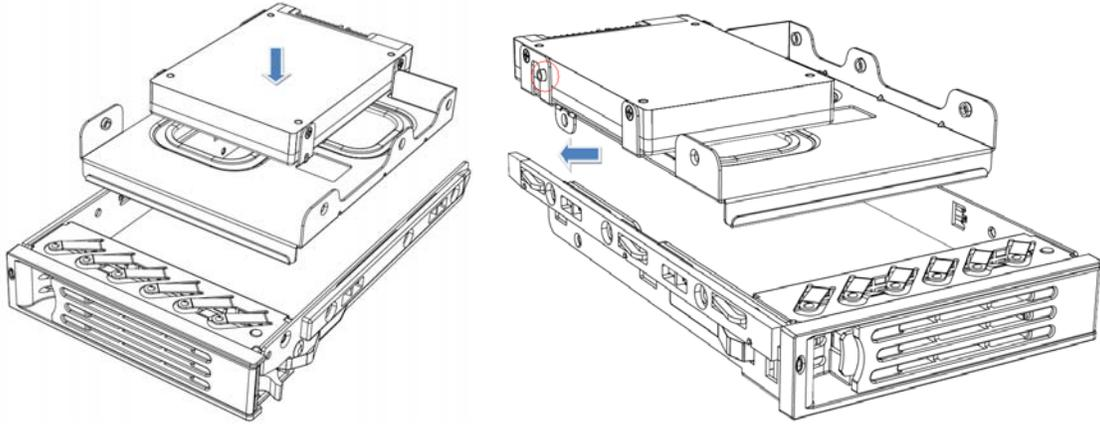

Figure 5. Installing the bracket into the rail
- Figure 5. Installing the bracket into the rail 4